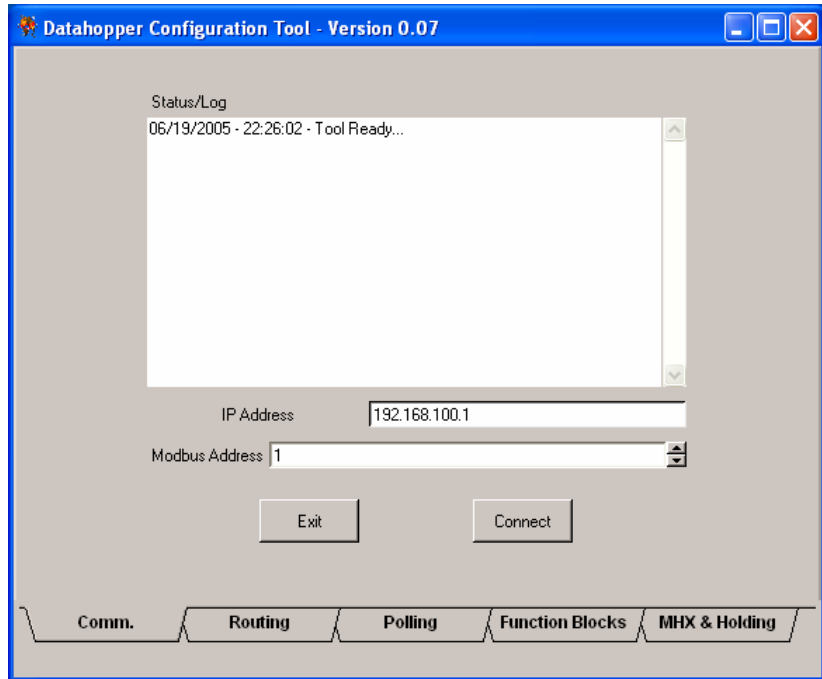

Figure 7 Configuration Tool
3. Run the DataHopper configuration tool. Type in the IP address and MODBUS address of the device (factory default 192.168.100.1 and MODBUS address 1). Then click connect. See Figure 7